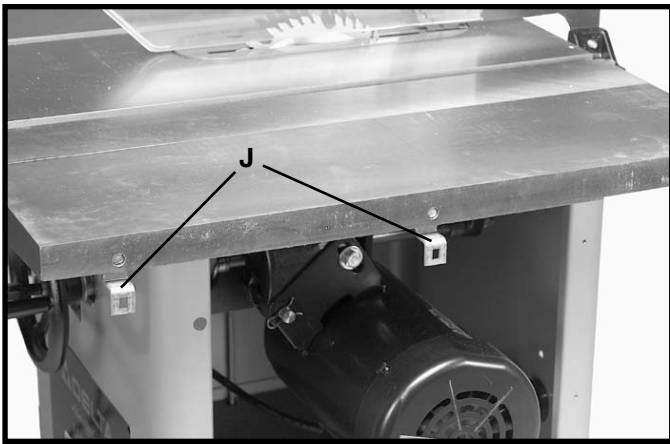

Fig. 65
9. Fig. 65, illustrates Z-brackets (J) properly assembled to extension wing.